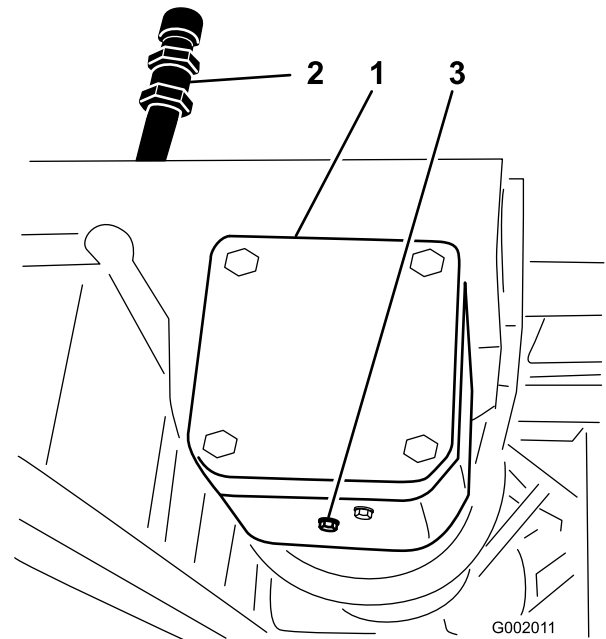

Figure 67
2. Place a pan under the drain plug on the pump drive gear box (Figure 67).
3. Remove the fill plug and drain plug (Figure 67), allowing the oil to drain into the pan.